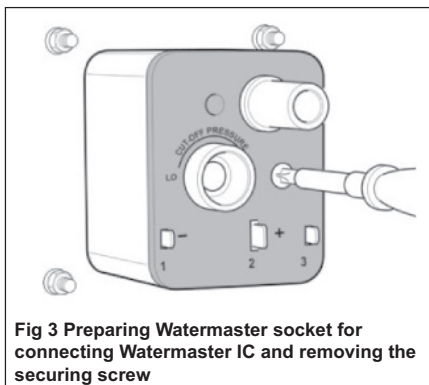

Fig 3 Preparing Watermaster socket for connecting Watermaster IC and removing the securing screw
Replacing the empty cylinder, Figure 3.
- Step 4 - Remove securing screw (see Fig 3)